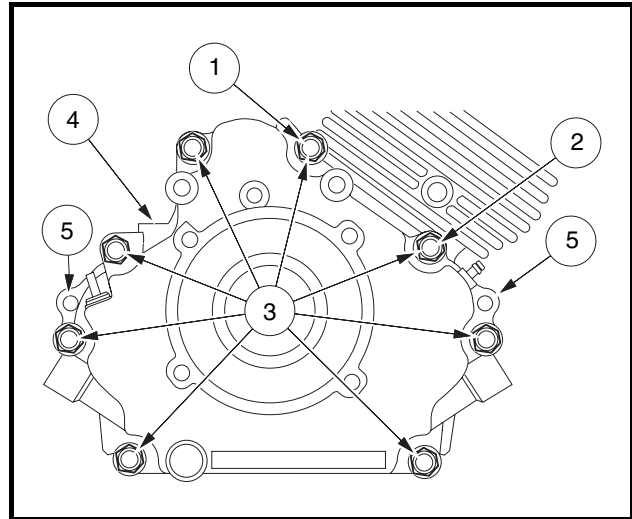

Figure 13-4 Crankcase Cover
2. Remove nuts and clamps at two-ended bolts (1 and 2) (Figure 13-4, Page 13-5).
3. Remove eight bolts (3) and remove the crankcase cover (4) (Figure 13-4, Page 13-5). See following NOTE.
NOTE: If the crankcase cover sticks, tap lightly with a plastic mallet on alternate sides near the dowel pins (5) (Figure 13-4, Page 13-5).